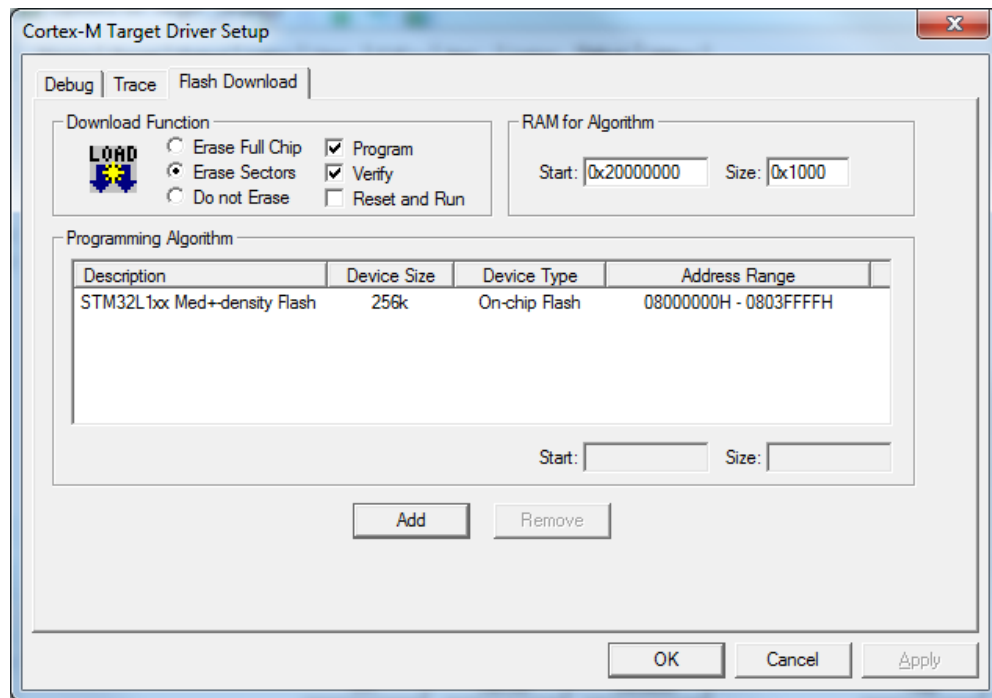

Figure 7. STM32L1xx flash programming algorithm selected
- Click on the **Flash Download** tab of the Cortex-M Target Driver Setup Window (Figure 7) and under **Programming Algorithm**, click the **ADD** button and select **STM32L1xx Med+density Flash 256K**. Then you can close the setup and options windows.